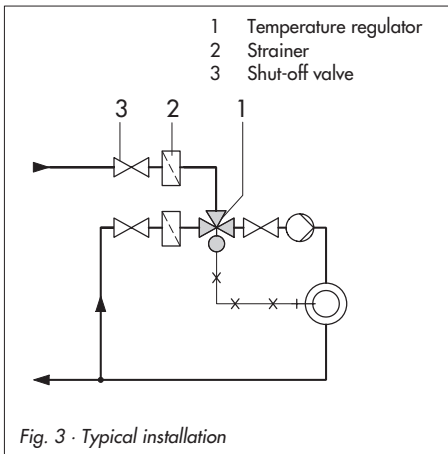
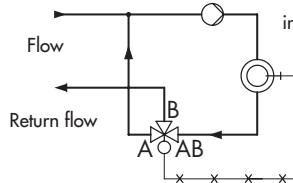

Fig. 3 · Typical installation
Fig. 4 · Arrangement of temperature regulators
*Make sure the valve is mounted free of stress and not exposed to excessive vibration (typical installations Fig. 3 and Fig. 4).*